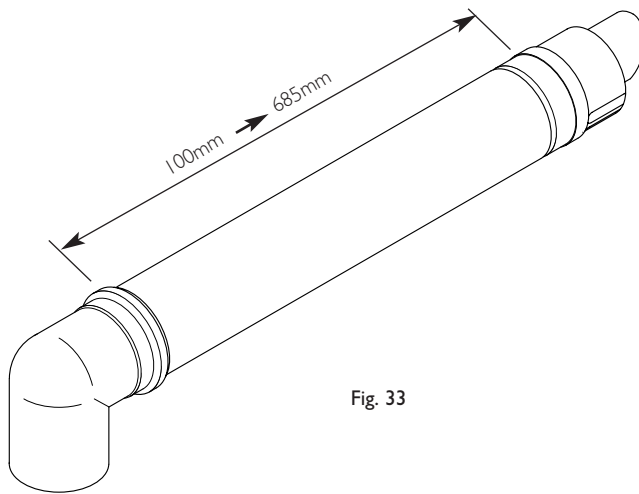

Fig. 33
1. The standard flue is suitable for lengths between 100mm minimum and 685mm maximum, as measured from the edge of the flue elbow outlet to the joint between the terminal and air duct (Fig. 33).